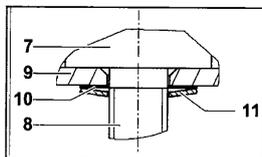

Fig. 5: Aligning disk spring
1. Put the pump on its side. This prevents diaphragm spacer(s) (10) and disk spring (11) from falling into the pump housing while the structured diaphragm is removed.
2. Move the structured diaphragm (7) to the upper point by turning the fan.
3. Lift the structured diaphragm (7) by the opposing side edges, grasp it and unscrew it in the counter-clockwise direction.
4. Remove the diaphragm support (9), diaphragm spacer(s) (10) and disk spring (11) from the threaded pin (8) of the structured diaphragm and keep in a safe place.
6. Push the diaphragm support (9), diaphragm spacer(s) (10) and disk spring (11) in this order onto the threaded pin (8) of the new structured diaphragm (7) (see Fig. 5).